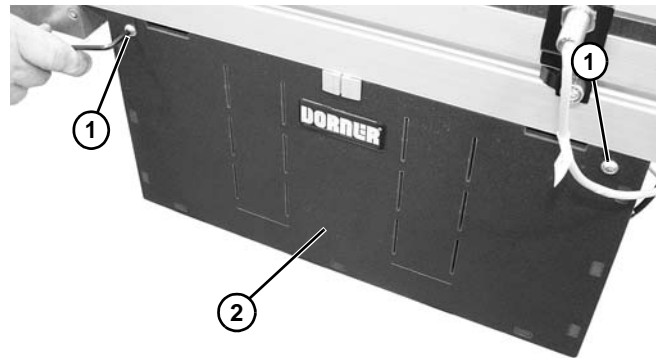

**Figure 132**
2. Remove socket head screws (**Figure 132, item 1**) and bearing (**Figure 132, item 2**). Repeat for other bearing.